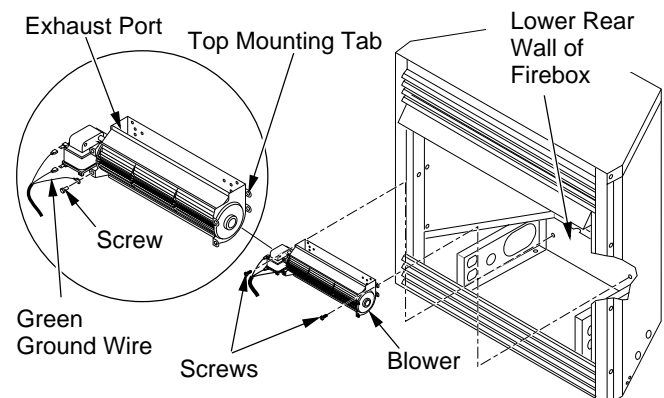

Figure 18 - Mounting Blower to Firebox
- Attach green ground wire from power cord to blower housing using screw provided (see Figure 18). Tighten screws securely.
6. Place the blower against lower rear wall of firebox outer wrapper with the exhaust port directed upward. Align the holes in top mounting tabs of blower with holes in wall of wrapper (see Figure 18, page 6). Using 2 screws provided, mount blower and tighten screws securely.